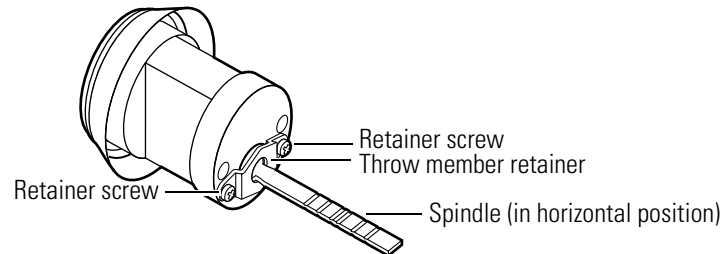

Figure 5.14 Removing the spindle
3. Using a narrow-blade screwdriver, unscrew the two retainer screws and remove the throw member retainer and spindle. See Figure 5.14.